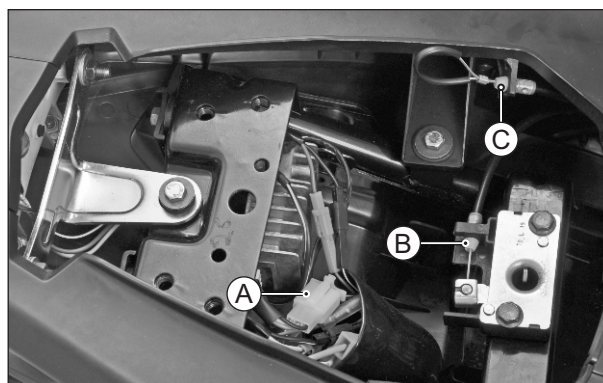

Fig. 2.24
- Disconnect the tail lamp coupler (A) from the wiring harness. (Fig. 2.24)
- Disconnect the rear seat lock cable (B) from the seat latch and release it from its locating bracket. (Fig. 2.24)
- Similarly, release the seat release cable (C) of front seat from its locating bracket. (Fig. 2.24)